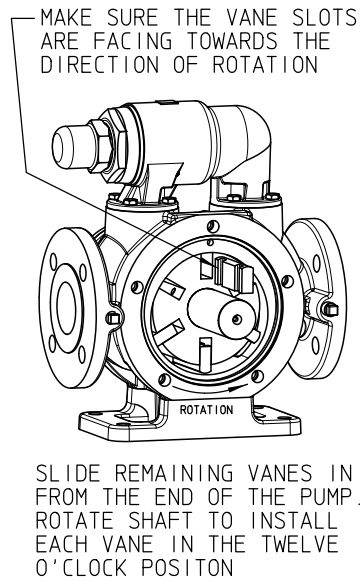

FIGURE 10
8. Ensure the grooves on the vanes are open in the direction of rotation and the rounded edge of the vanes are pointed out from the shaft as shown in **figure 10**. Turn shaft by hand to ensure the vanes and pushrods can move freely.
3. Remove the plugs (item 30B) in the casing and head and install them in the opposite side.
5. Re-install the rotor/shaft assembly and pushrods as described in the “**Assembly**” section. Install the vanes in the opposite direction shown in **figure 10**. The vane grooves should now be open in the new direction. Ensure the rounded edge of the vane will contact the casing.